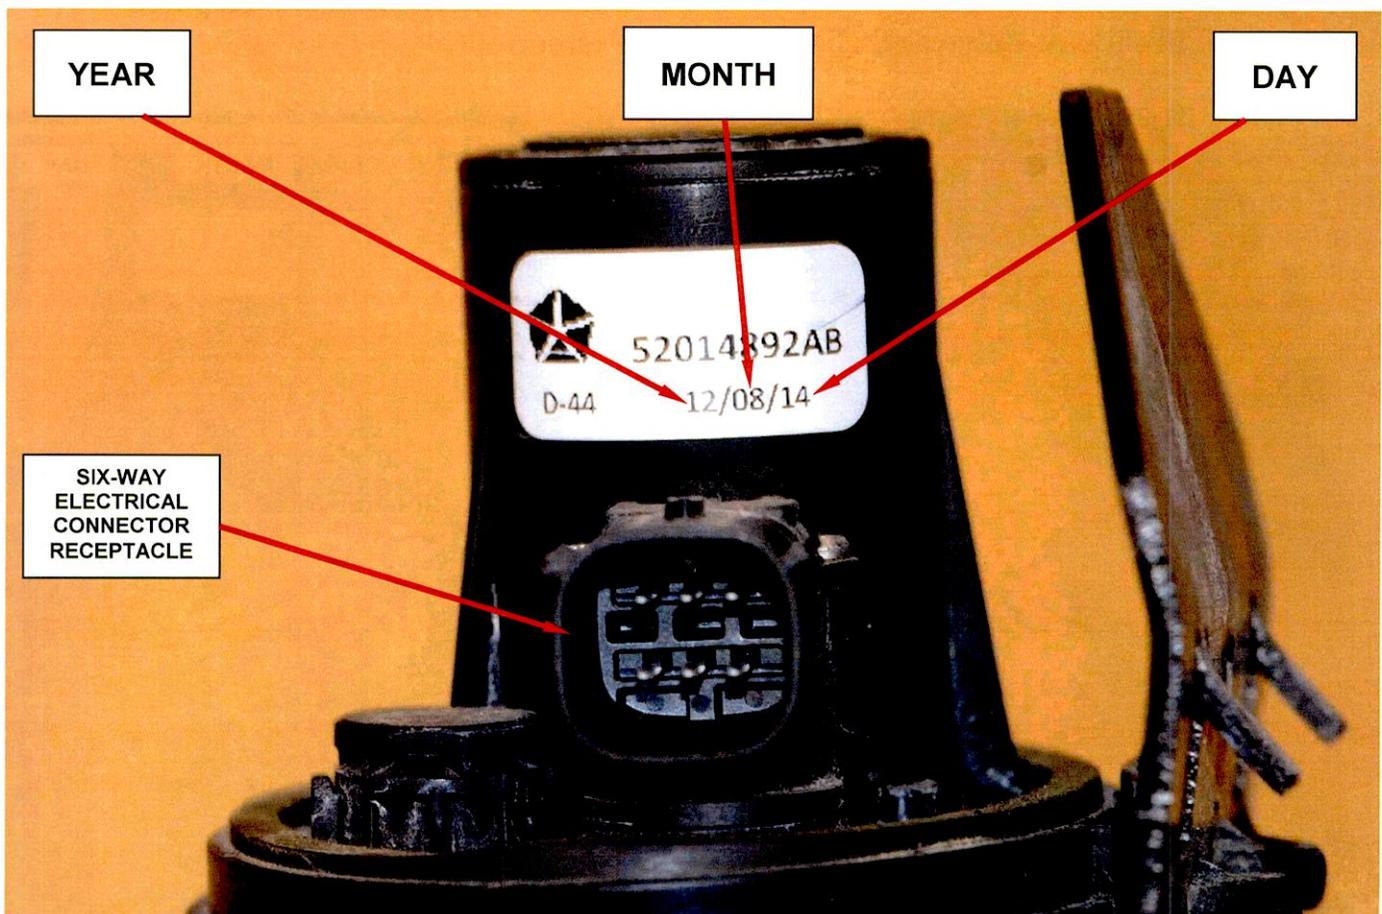

Figure 2 – Read Date Code on Three-Way Coolant Valve
2. Disconnect the wire harness six-way electrical connector from the three-way valve electrical connector receptacle (Figure 2).
10. Connect the body wire harness six-way electrical connector for the three-way coolant valve to the three-way coolant valve electrical connector receptacle (Figure 2).